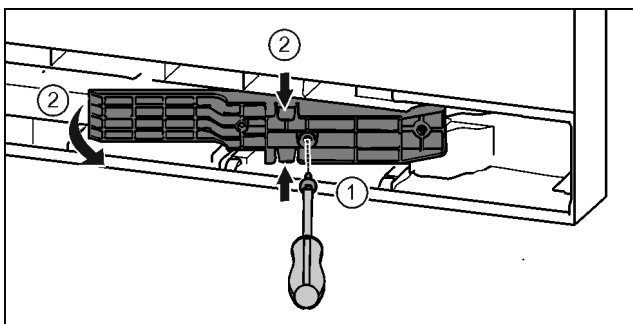

Fig. 22\*
- ▶ Loosen the screws with the T15 screwdriver.\* Fig. 22 (1)
- ▶ Pull out the adapter.\* Fig. 22 (2)